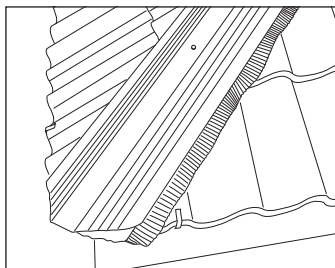

Fig. 9 – HipFast support tray cut at eaves
- 8 In all applications it is recommended that Hipfast support trays (34002) be used. These are designed to ensure the correct support and alignment of hip tiles. Cut a HipFast Hip Support Tray to suit angle and overhang of tiles at eaves (Fig. 9).